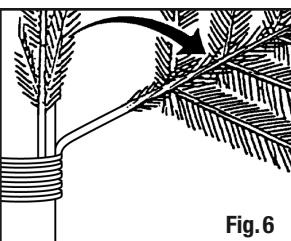

Fig.6
- WRAPPED TREES:** Working your way up from the bottom, gently lower all branches from their upright setting by grasping the branch and pulling it downward (Figure 6). Each branch must be shaped to a natural position by spreading out the left and right tips away from the center tip (See Shaping Instructions on page 4). Continue to lower branches on upper section(s) in the same manner.